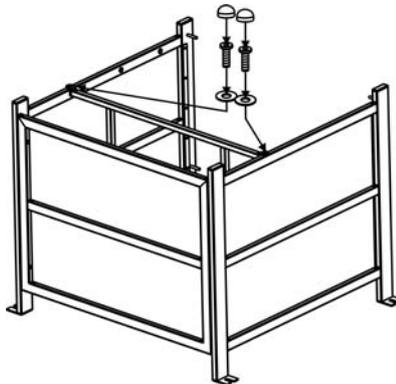

Figure 3
3. Attach the middle support-2 to the side panels by using two 1/4"x20 mm bolts and Ø6.5X1.0 mm washers as shown in Figure 3. Guide bolts through holes in the middle support-2, into pre-drilled holes in the side panels. **Hand tighten only.**